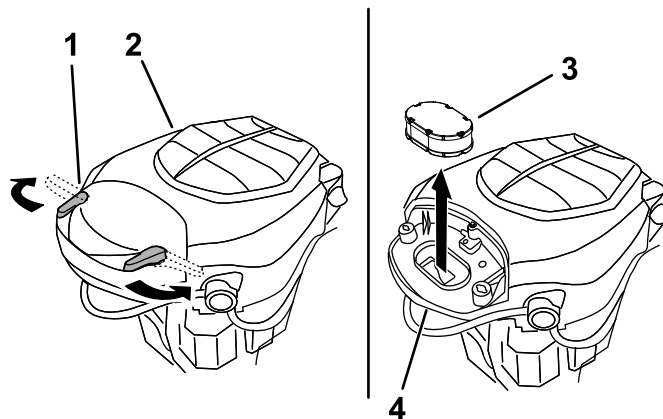

Figure 29
3. Install the cover and secure it with the retaining clamps (see Figure 29).